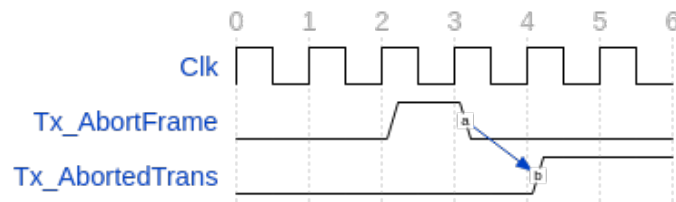

Figure 2.6: Wave diagram of *Tx_AbortedTrans* behavior.
- *Tx_AbortedTrans* should be asserted by the *TxController* module if it receives the *Tx_AbortFrame* signal (Fig. 2.6).